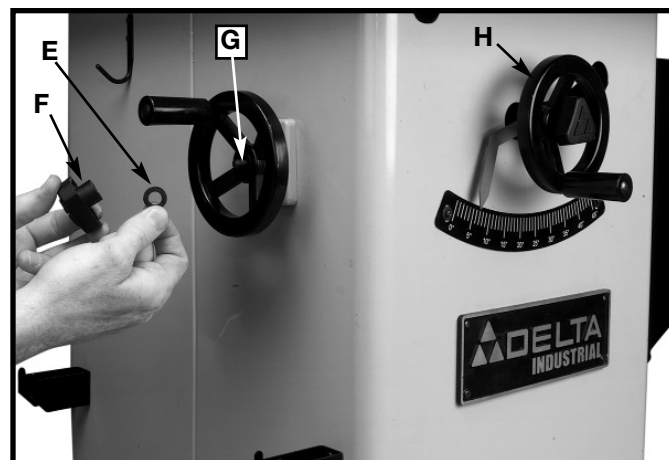

Fig. 7
Place nylon washer (E) Fig. 7 on shaft then thread locking knob (F) Fig. 7, on shaft (G) and tighten securely.
Attach blade raising handwheel (H) Fig. 7 in the same manner.